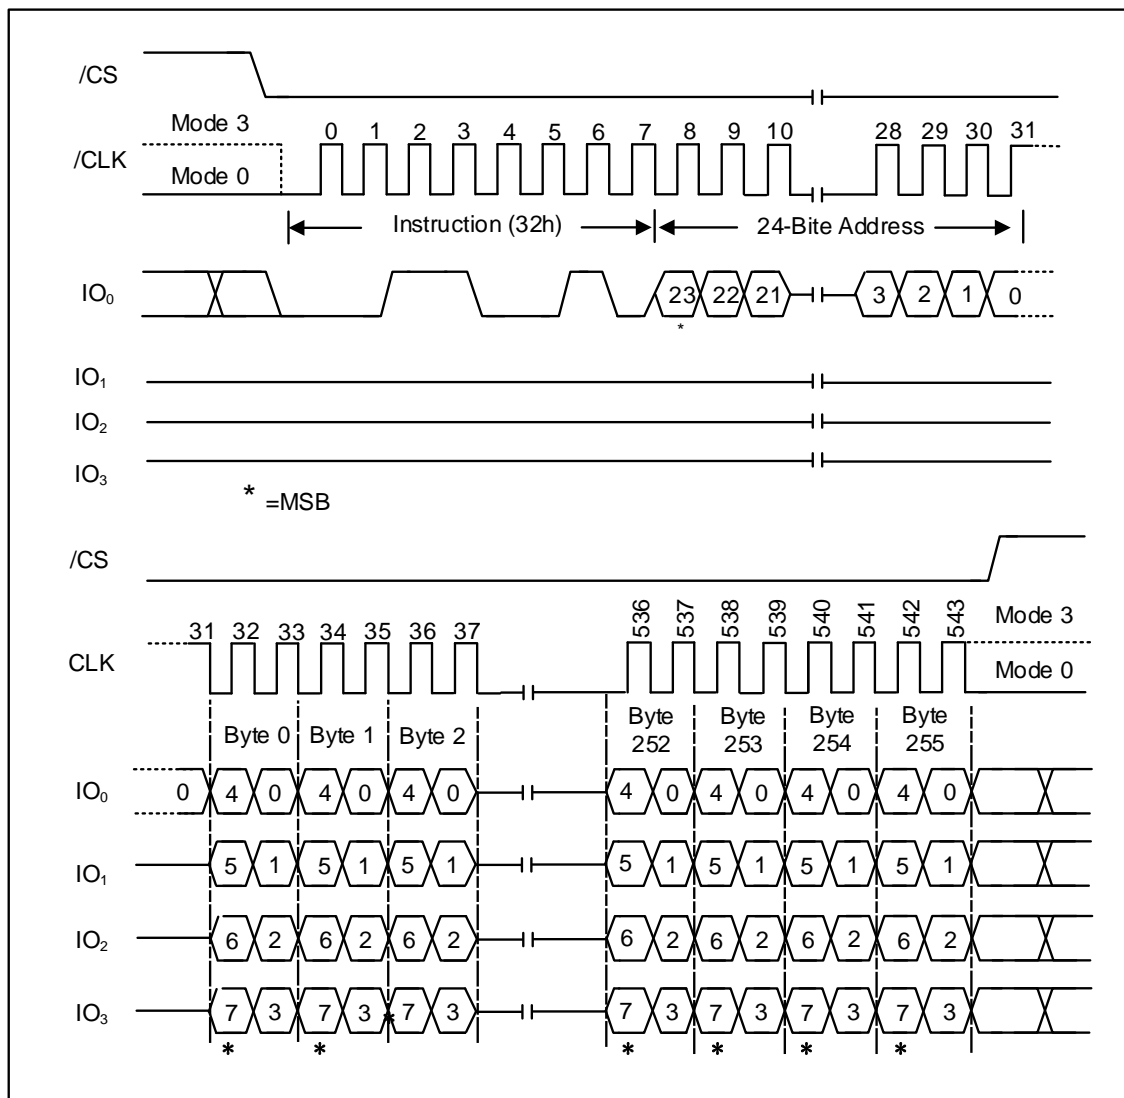

Figure 23. Quad Input Page Program Instruction (SPI Mode only)
To use Quad Input Page Program the Quad Enable (QE) bit in Status Register-2 must be set to 1. A Write Enable instruction must be executed before the device will accept the Quad Input Page Program instruction (Status Register-1, WEL=1). The instruction is initiated by driving the /CS pin low then shifting the instruction code "32h" followed by a 24-bit address (A23-A0) and at least one data byte, into the IO pins. The /CS pin must be held low for the entire length of the instruction while data is being sent to the device. All other functions of Quad Input Page Program are identical to standard Page Program. The Quad Input Page Program instruction sequence is shown in Figure 23.